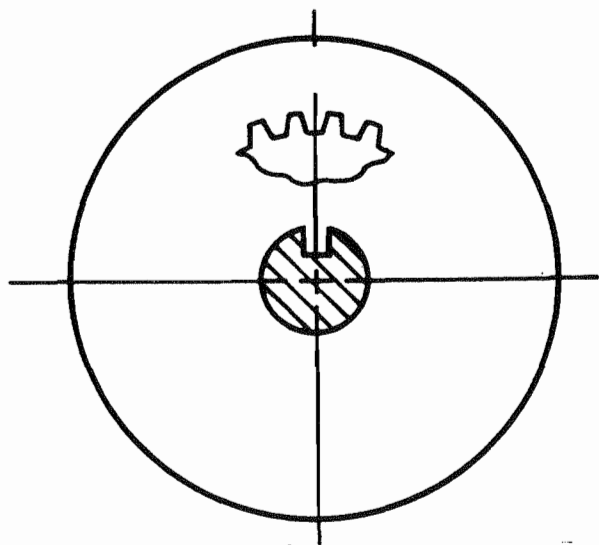

Figure 902. Aligning Pinion Drive Gear on Shaft
*Pinion drive gears (62) removed from rotating magnet (61), whether damaged or not, must not be reused.*
- (1) Position gear on cam end of shaft so any tooth space aligns with keyway in shaft. (See Figure 902.)